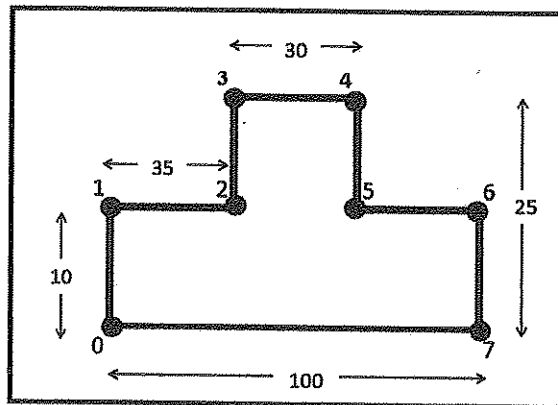

Figure 3c (ii) / Rajah 3c (ii)
- ii. Based on Figure 3c(ii), construct a CNC program by using Absolute Method (coordinate x,y).